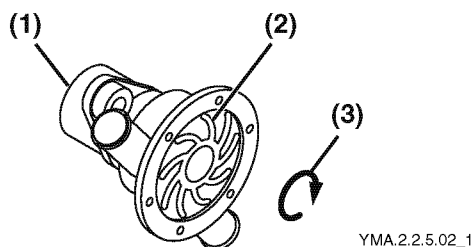

Figure 4-26
The seawater pump turns in the counterclockwise direction as viewed from driving end. If the impeller (**Figure 4-26, (2)**) has been removed for any reason, install the impeller in the proper direction (**Figure 4-26, (3)**). Additionally, if the engine crankshaft is being turned manually, be careful to turn it in the normal direction. *NOTICE: Incorrect turning could twist and damage the impeller blades.*